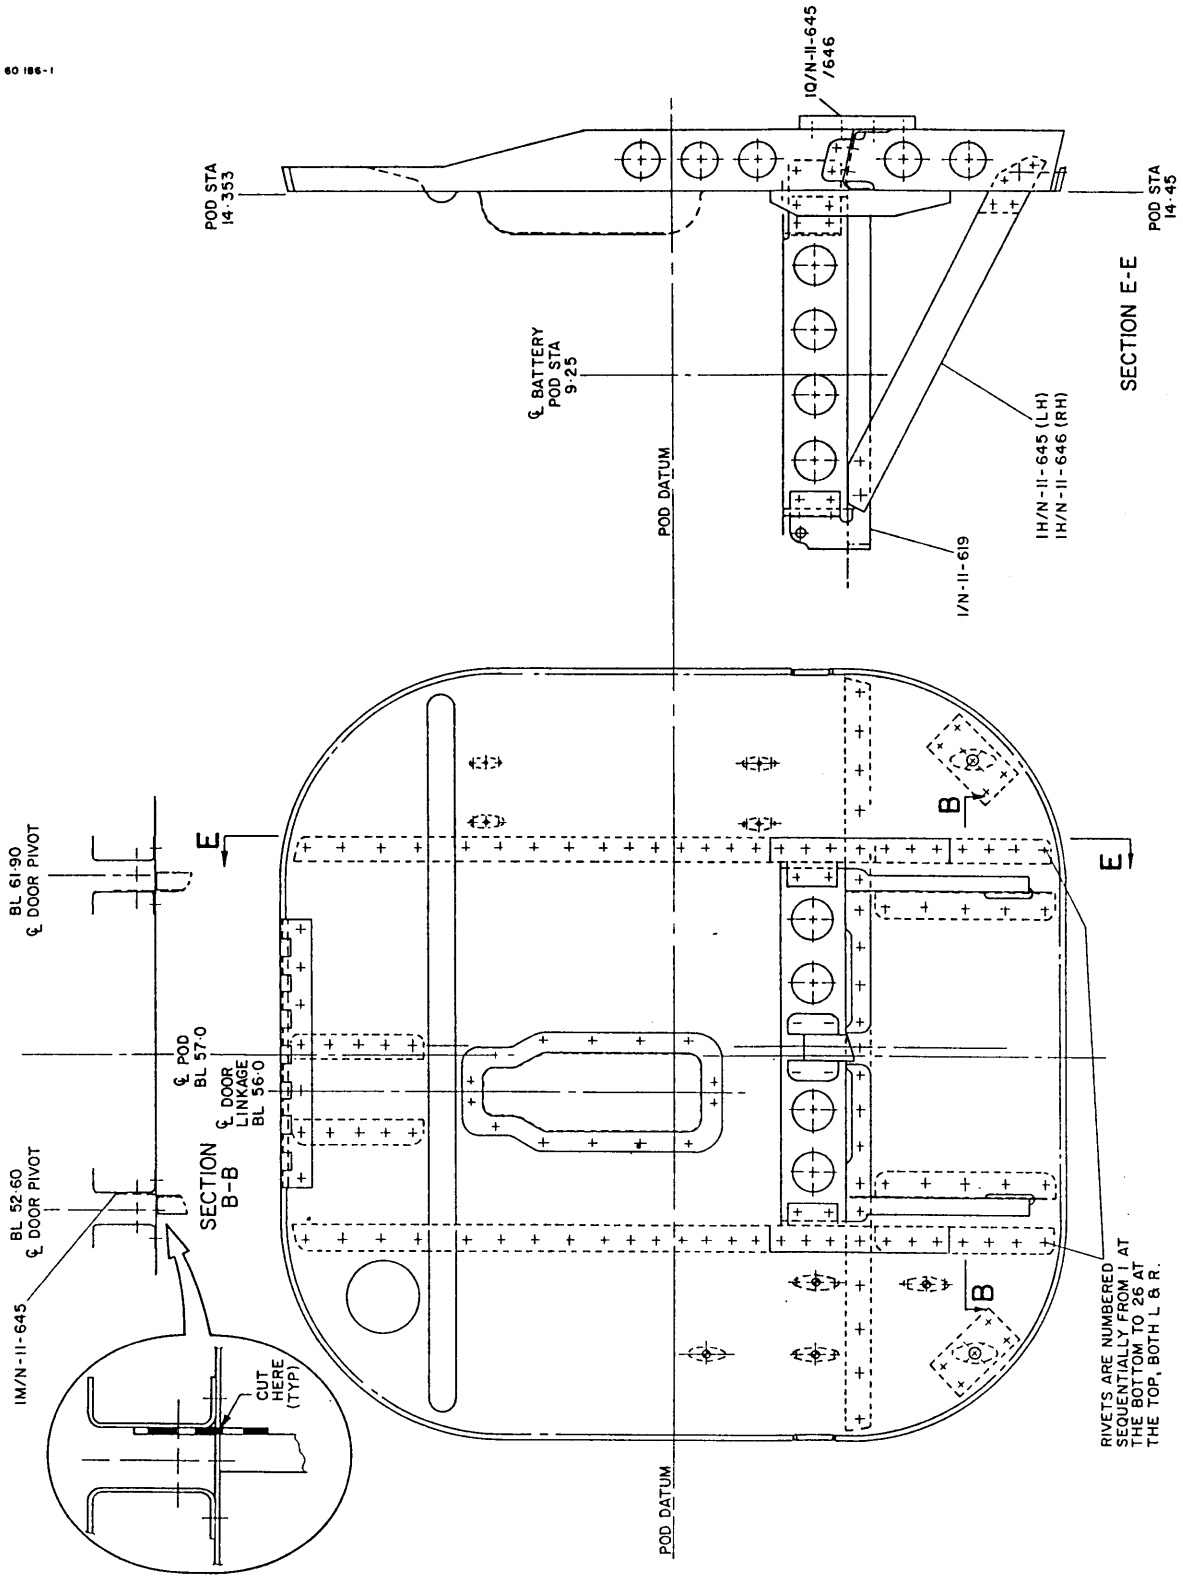
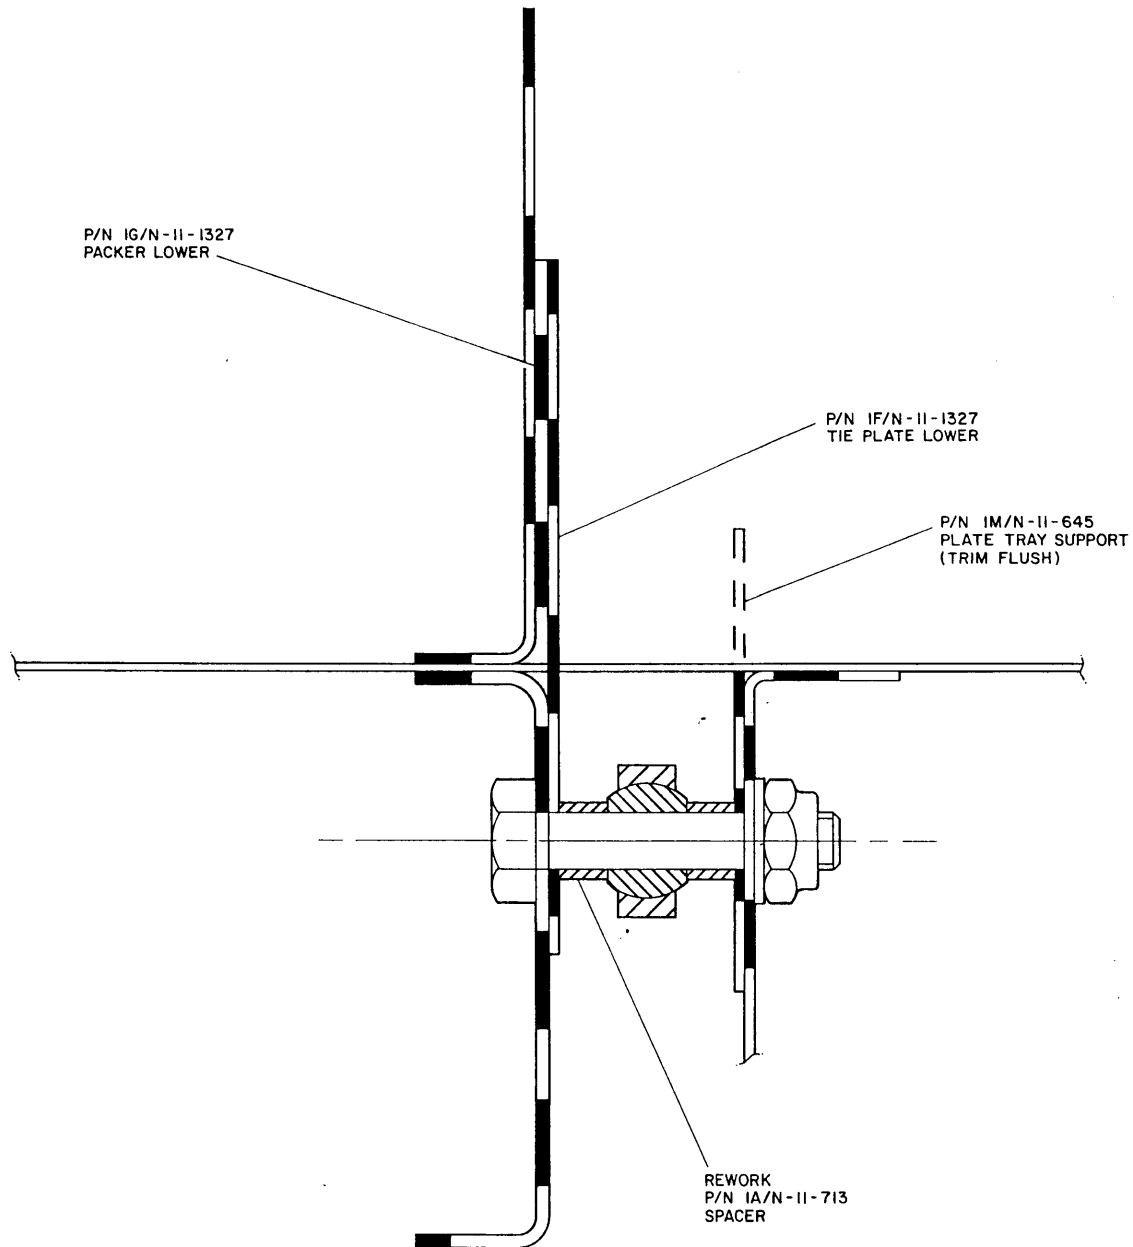

Figure 1 Existing Battery Tray Installation
Figure 5 Main Landing Gear Door Hinge
Illustrated Parts Catalogue Chap 52-80-01 Fig 1
Illustrated Parts Catalogue Chap 52-80-01 Fig 1.
- F. Refer to Figure 1. De-rievet and remove existing Battery Tray PN 1/N-11-619 complete, together with Tray Support Channels PN 1H/N-11-645/646 and Tray Support Angles PN 1J/N-11-645/646.
- I. Refer to Figure 1, Section B-B and Figure 5. Trim Tray Support Plate PN 1M/N-11-646 and dress until flush with face of frame at Pod Sta 14.45.
- (2) Seal redundant slots with Scotchcal tape or a suitable sealant.
- (3) Refer to Figure 1. Drill rivets 2, 3 and 4 and 12 to 19 both L and R.
- L. Refer to Figures 1 and 4. Remove existing LH and RH Pivot Support Butt straps PN 1Q/N-11-645/646 and replace with Channel PN 1T/N-11-1327.
- M. Refer to IPC Chap 52-80-01, Figure 1. Rework the two spacers PN 1A/N-11-713, which fit nearest the tie plate, by filing or machining 0.040 in from this length. Re-identify the modified spacers as PN 1K/N-11-1327.
- (1) Mask battery tray support strips.
- (2) Prime where required using BMS10-11 zinc chromate epoxy primer or suitable equivalent and paint with a chemical resistant finish white.
- (3) Fill all gaps using a neutral curing silicone rubber sealant.
- P. Refer to MM Chap 32-10-15 and this Service Bulletin Figure 5. Install forward LH main landing gear door and adjust/test.